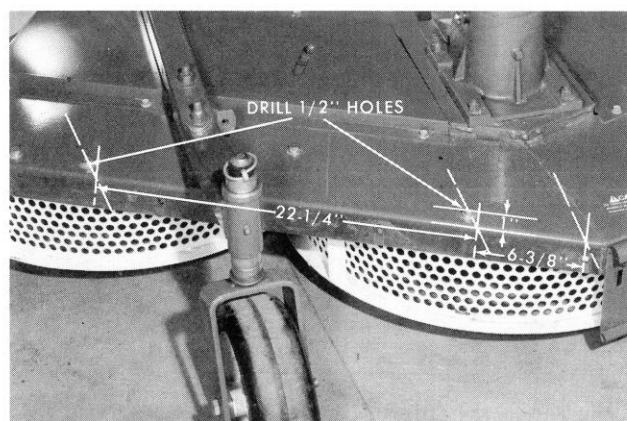

Figure 1
1. On cutting units serial number 40486 and prior, remove the right front shield for ease of measuring. Mark the location of the two holes according to the dimensions given in Figure 1. Drill two  $\frac{1}{2}$ " diameter holes. Reinstall the front shield.